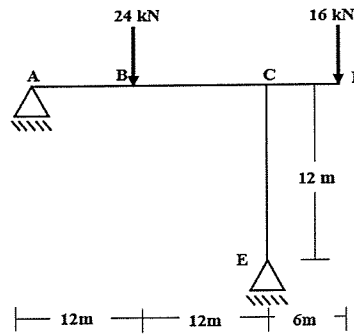

Figure 2
2. Analyze the frame shown in **Figure 2** by Force Method and determine the support reactions. Consider the horizontal reaction at A or E as redundant. [EI=Constant] [16]